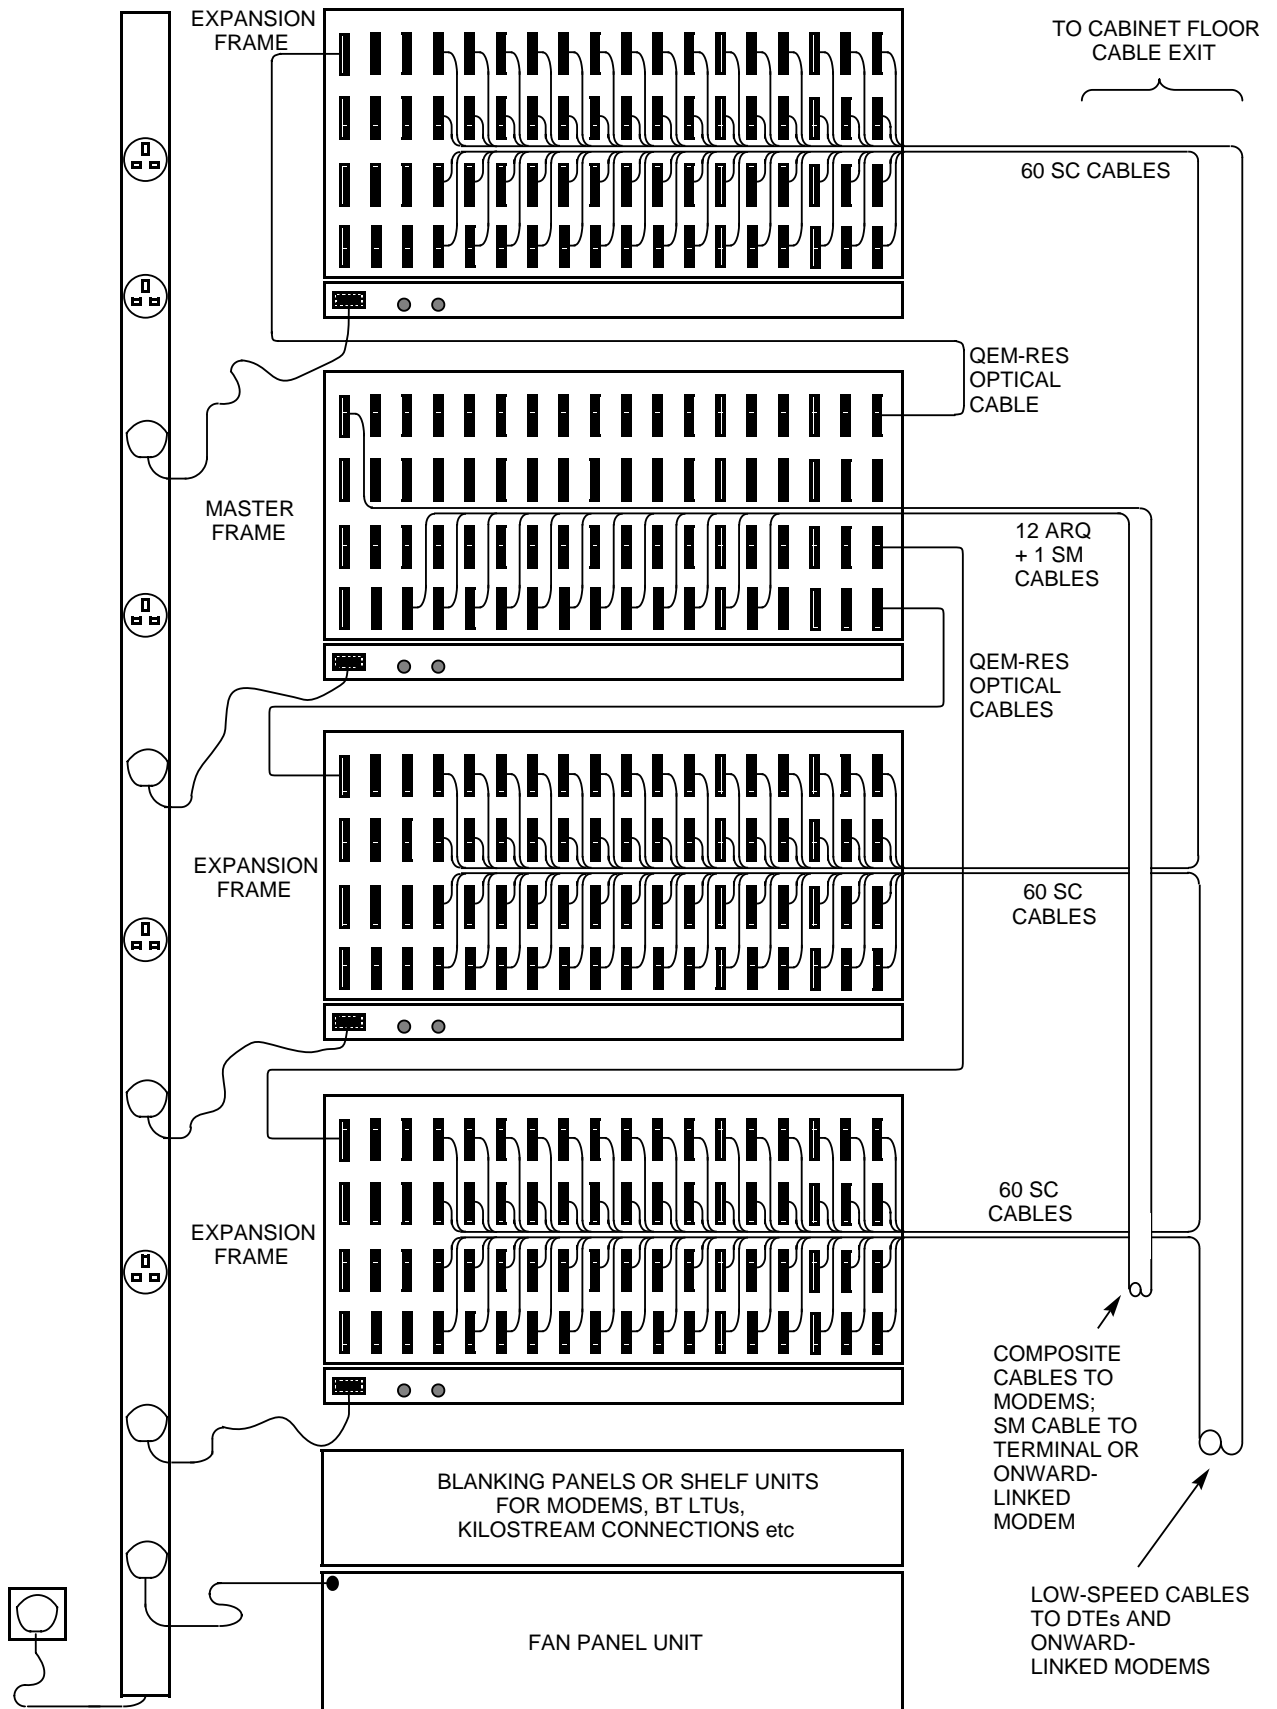

Figure 4-1 Example Multi-frame DCX 870 Cabling (Schematic - Rear View)
4. Examine your physical configuration plan and port connector plan for each of the card frames to determine the intended slot positions of the cards and how they should be connected. Also see Figures 4-1 and 4-2 for example installations.
Example diagrams of standard cabinet cabling are given in Figures 4-1 and 4-2.